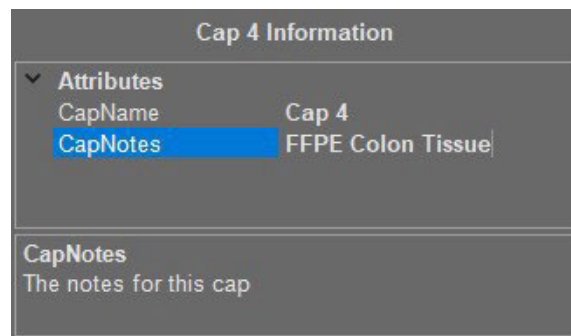

Figure 21
2. To view cap information. In the Cap Information area, click **CapName** or **CapNotes** (see Figure 21).